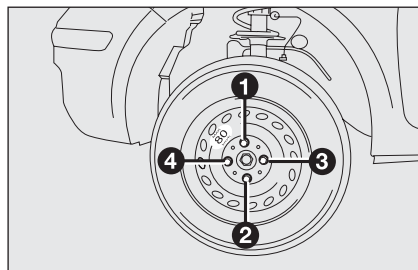

fig. 8
- fasten bolts completely, working in a criss-cross fashion as shown in **fig. 8**.